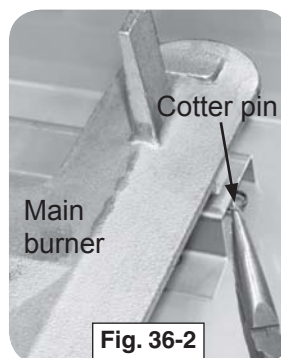

Fig. 36-2
2. Remove the cotter pin from the left or right rear burner anchoring peg by pulling it straight out of the cotter pin hole using fingers or needle-nose pliers (Fig. 36-2).